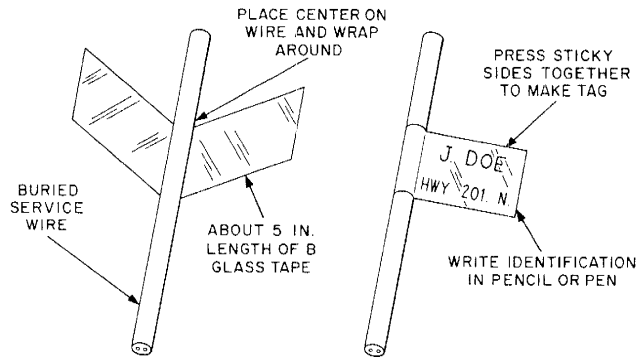

Fig. 1—Identifying Tags
**1.09** Buried wires can be identified at terminations by means of tags made from B Glass Tape. Cut about 5 inches of glass tape and wrap it around the wire, pressing the sticky side against itself to make the tag. It can be readily marked with pencil or pen to show the subscriber or to identify the route of the buried wire, as shown in Fig. 1.